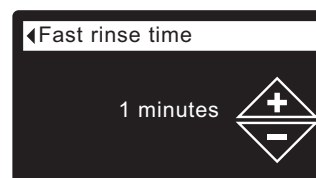

FIG. 69
- 8b. **Fast rinse time:** Press the UP (▲) or DOWN (▼) buttons to change the fast rinse time. Hold the button down to rapidly advance. The fast rinse time can be set from 1 to 99 minutes* (See Figure 69).